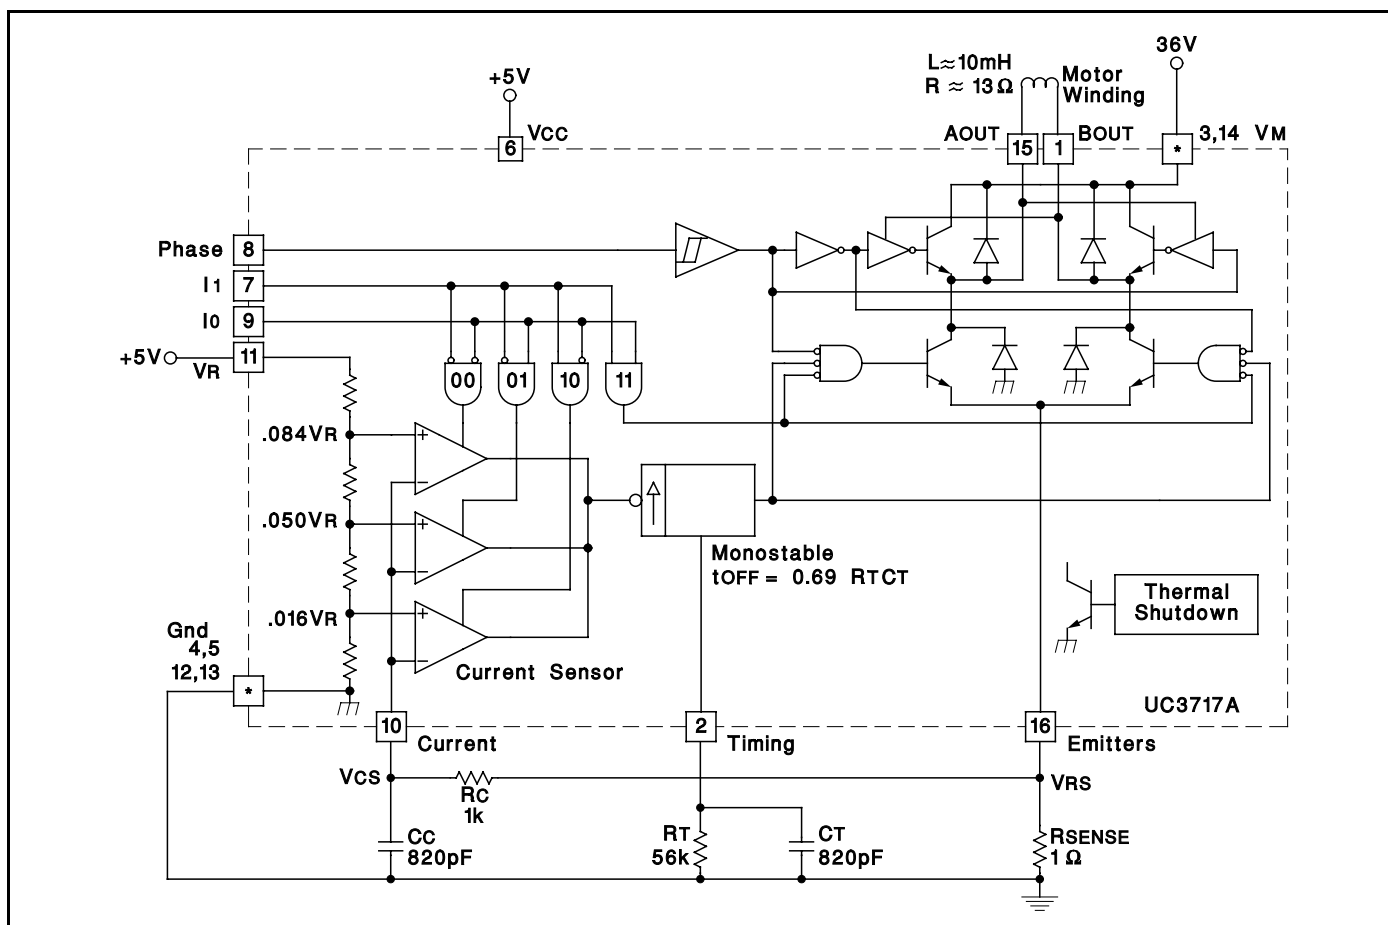

Figure 6. UC3717A Test Circuit
**ELECTRICAL CHARACTERISTICS** (Refer to the test circuit, Figure 6. Vm = 36V, Vcc = 5V, VR = 5V, TA = 0°C to 70°C, unless otherwise stated, TA = TJ.)
(Refer to the test circuit, Figure 6.  $V_M = 36V$ ,  $V_{CC} = 5V$ ,  $V_R = 5V$ ,  $T_A = 0^\circ C$  to  $70^\circ C$ , unless otherwise stated,  $T_A = T_J$ .)